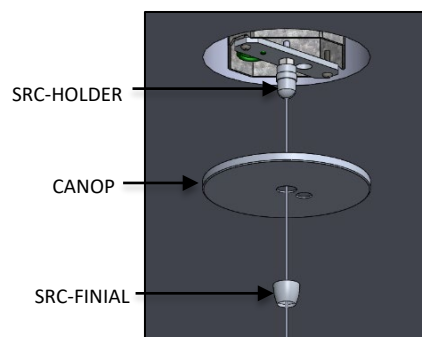

FIG. 28 – CANOPY INSTALLATION
5. Pass the remaining Aircraft cable through the canopy and SRC-FINIAL. Loosely secure CANOPY to the ceiling by threading the SRC-FINIAL to the SRC-HOLDER as shown below in FIG. 28.